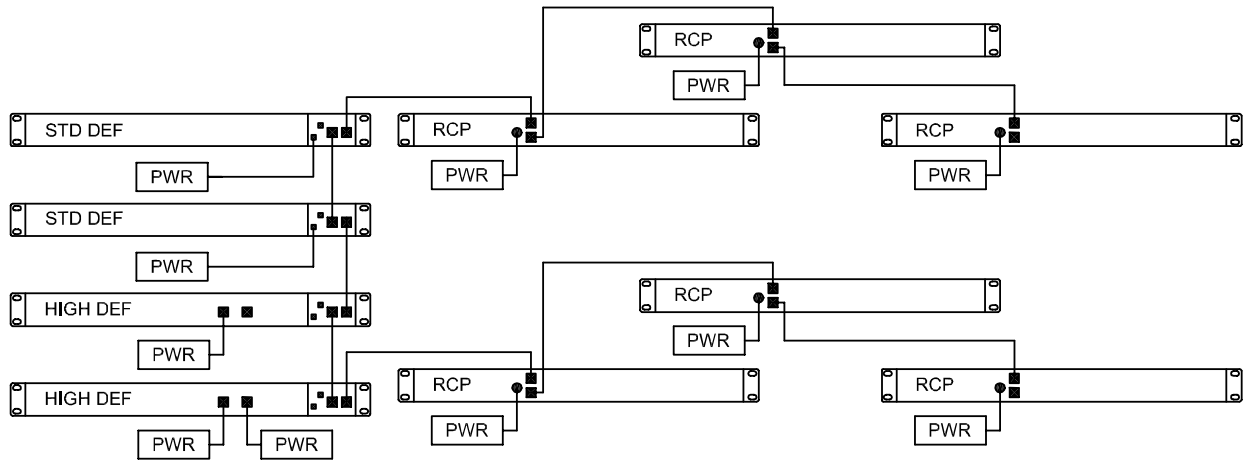

Figure 1. Sample Ocelot System Rear View
- **System Topology:** All mainframes and remote control panels (RCPs) in an Ocelot system shall be connected in a bus topology using the RJ-45 connector pairs located on the rear of each panel assembly (see Figure 1 on page 3). Jack splitters shall not be used. All mainframes shall be contiguous along the bus, and shall be located in close proximity to each other. A BURP Bus Terminator shall be installed in every unused external RJ-45 connector.